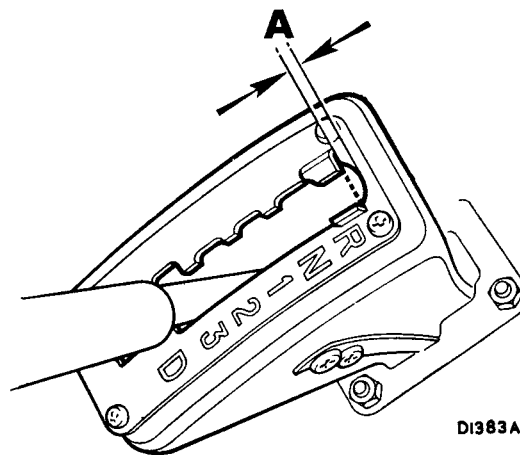

Fig. Fa.69
- c. On transmissions which have been fitted with the minimum backlash bell-crank lever assembly, the reverse position of the selector lever indicator gate should be modified as described below to ensure that the selector valve detent is fully engaged when reverse gear is selected. Unscrew the gear selector handle from its lever and then remove the four screws securing the indicator gate to the quadrant. File a radius  $\frac{1}{16}$  in. (1.6 mm.) deep in the end of the gate, as shown in Fig. Fa.69, and reassemble the quadrant components.